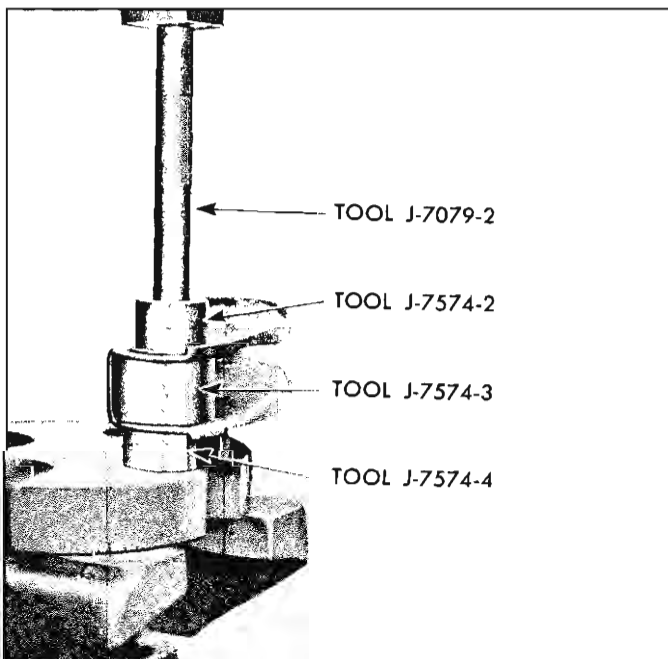

Fig. 27—Installing Upper Control Arm Bushings (Front Bushing Shown)
3. Start bushing into hole and press or tap in place. Check to see that no interference or cocking takes place. The flange of the bushing must be seated against the arm (fig. 27).